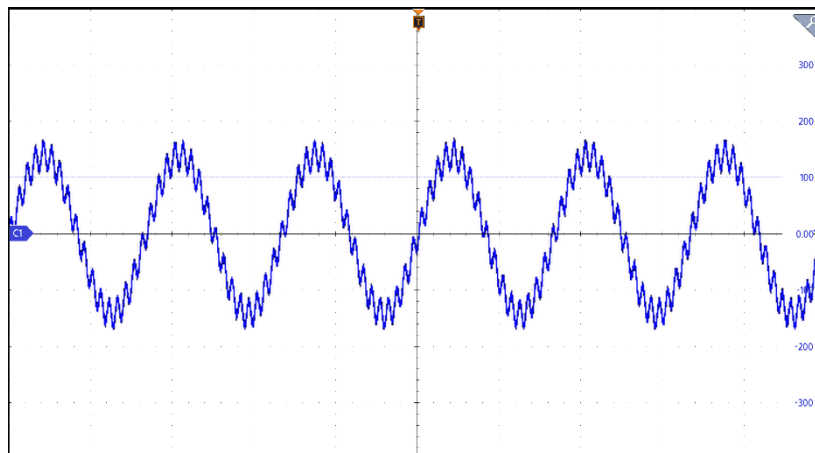

Figure 5-33 Interharmonic Mode Setting Page (Example Output Waveform for Phase 1)
6. After setting the parameters, tap the Home key , then tap  to trigger the output. The output waveform is shown in Figure 5-33.